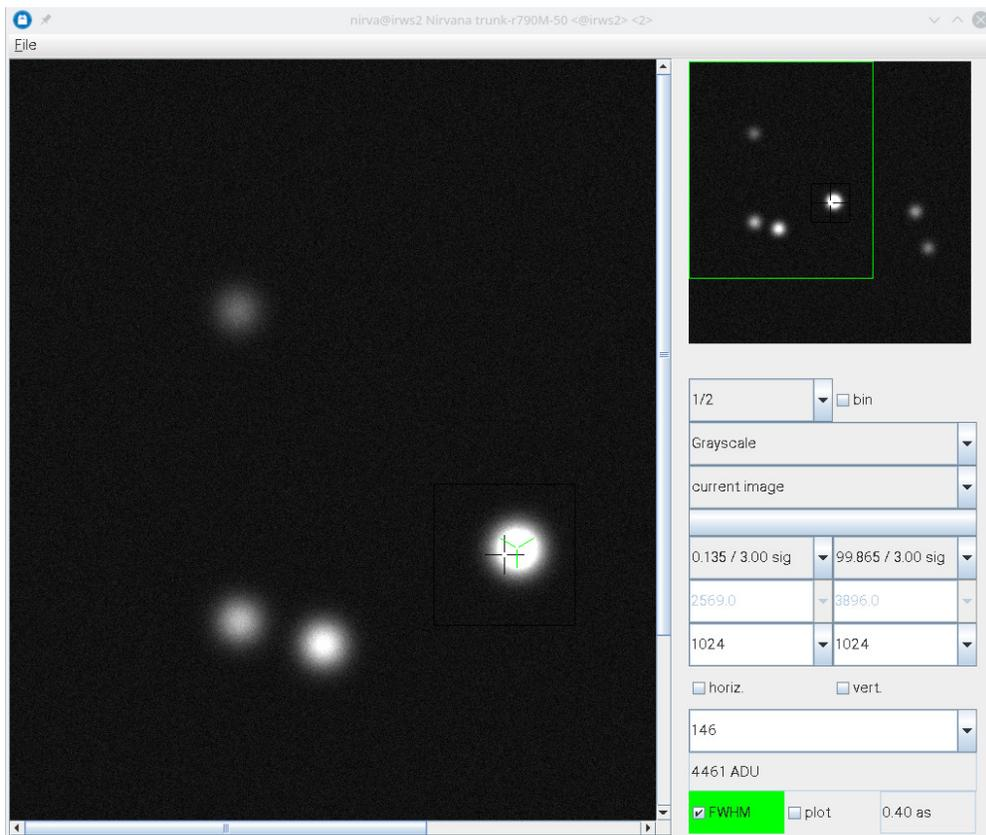

Figure 20: Current Exposure Display. Right after GEIRS startup this shows the white-on-blue logo of the MPIA.
4.3.4.1 Introduction The display tool, Figure 20 works similar to `ds9` or `fv` tools with some display options and similar statistics. The GEIRS display, however, is completely unaware of world coordinate systems standards. Some online data processing techniques are available. These interactive operations (magnifying, scrolling forward and backward through the frames, setting ADU cut levels, ...) affect only the displayed data but do not manipulate the raw data that have been or will be saved to disk.
to the `QueueFiles` shell script (Sec. 3.3). As an alternative to using the `type` command one may use the full path of `xpaset` or make sure by symbolic links that the `path` contains the executable. Note that `ds9` sometimes needs to read `ds9-64` depending on how this was compiled. With that setup, opening the GUI in Figure 20 may be superfluous.
The menu on the right hand side of Figure 20 has a number of fields, which are described from top to bottom in the subsequent paragraphs.